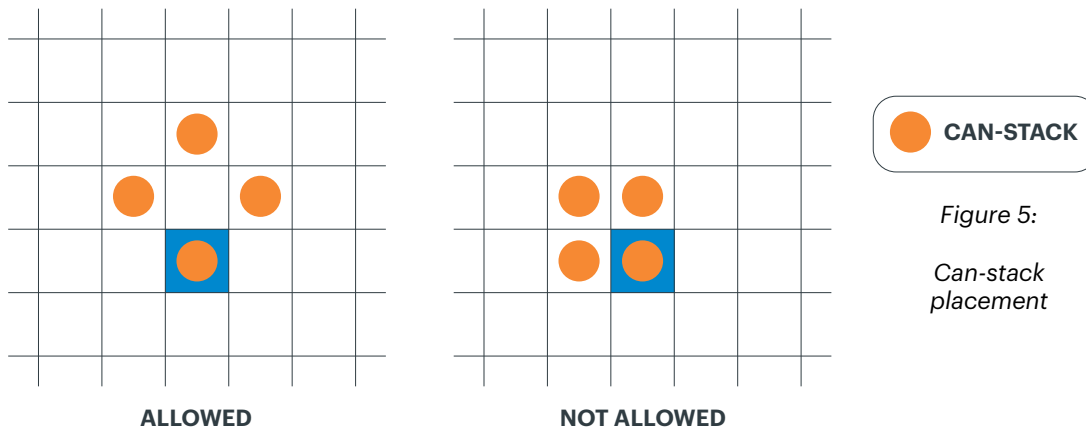

Figure 5:
- No two can-stacks can be placed in adjacent grid-cells. Placement in grid-cells that are diagonal to each other is allowed (see Figure 5).